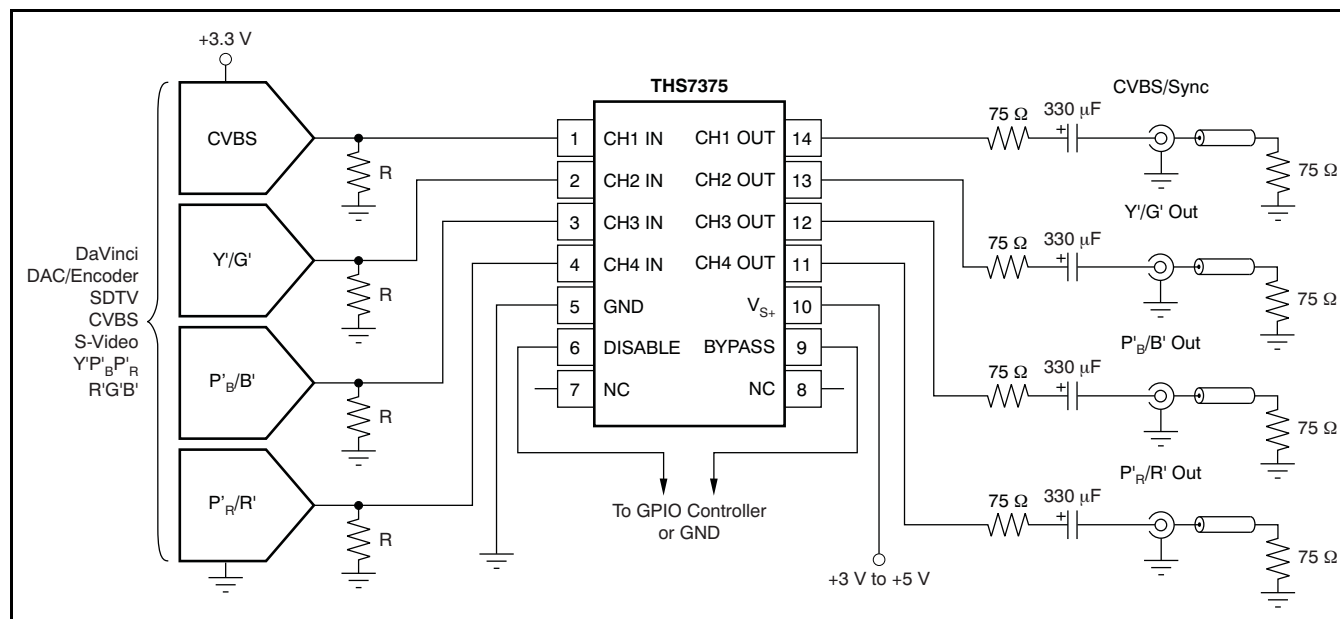

Figure 46. Typical SDTV CVBS/ $Y'P'_BP'_R$ Inputs from DC-Coupled Encoder/DAC with AC-Coupled Line Driving
A typical application circuit that uses the THS7375 as a video buffer is shown in Figure 46. It shows a DAC or encoder driving the input channels of the THS7375. One channel is a composite video (CVBS) channel of a standard definition (SD) video system. The other channels are the component video $Y'P'_BP'_R$ (sometimes labeled $Y'U'V'$ or incorrectly labeled $Y'C'_B'C'_R$) signals of a 480i or 576i system. These channels could easily be the S-Video Y'/C' channels or the $R'G'B'$ channels of a SCART system.